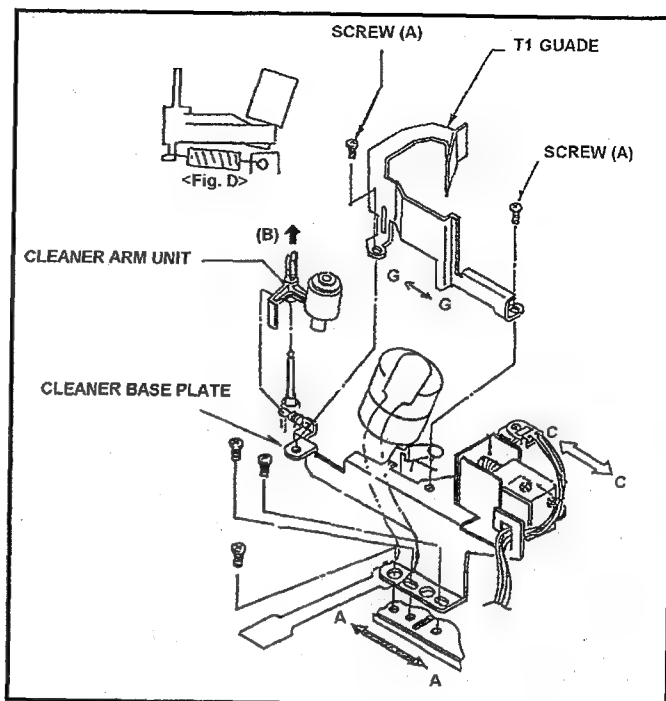
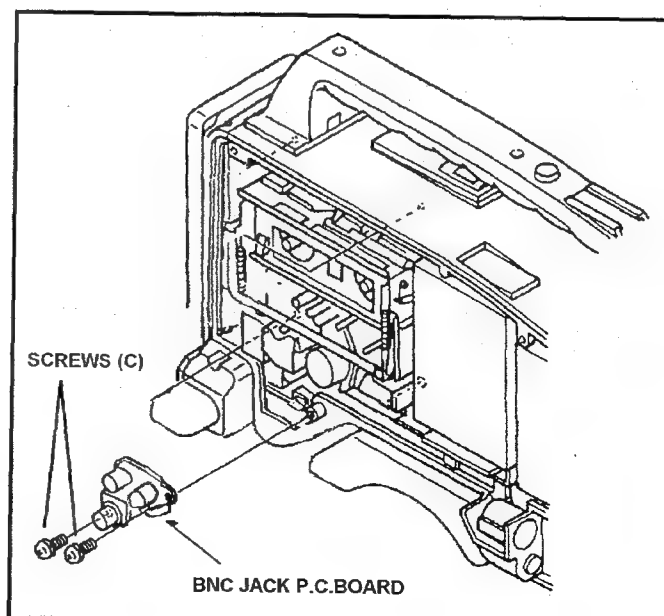

Fig. 10-8-1 Removal of Cleaner Roller Unit
Fig. 10-8-3 Removal of BNC JACK P.C.Board
2. Unscrew the **2 screws (C)** to remove the BNC JACK P.C.Board as shown in Figure 10-8-3.
3. Unscrew the **2 screws (A)** to remove the T1 Guide.
4. Pick up the **tip portion (B)** of Cleaning Arm Unit and remove the spring from Cleaner Arm Unit. Then remove the Cleaning Arm Unit as shown in Figure 10-8-1.